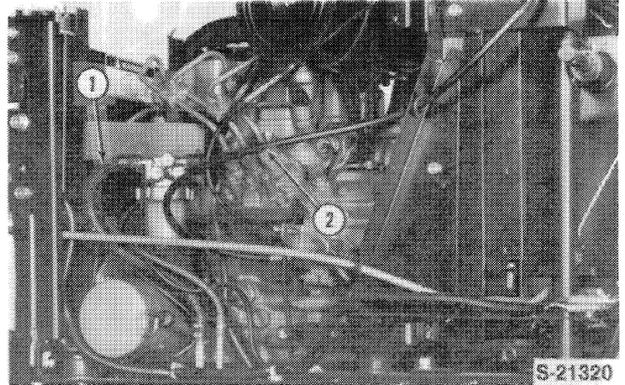

Figure 11
11. Disconnect the flexible fuel line hose (1), from the fuel filter, Figure 11.
12. Disconnect the proofmeter cable (2) from the engine drive, Figure 11.